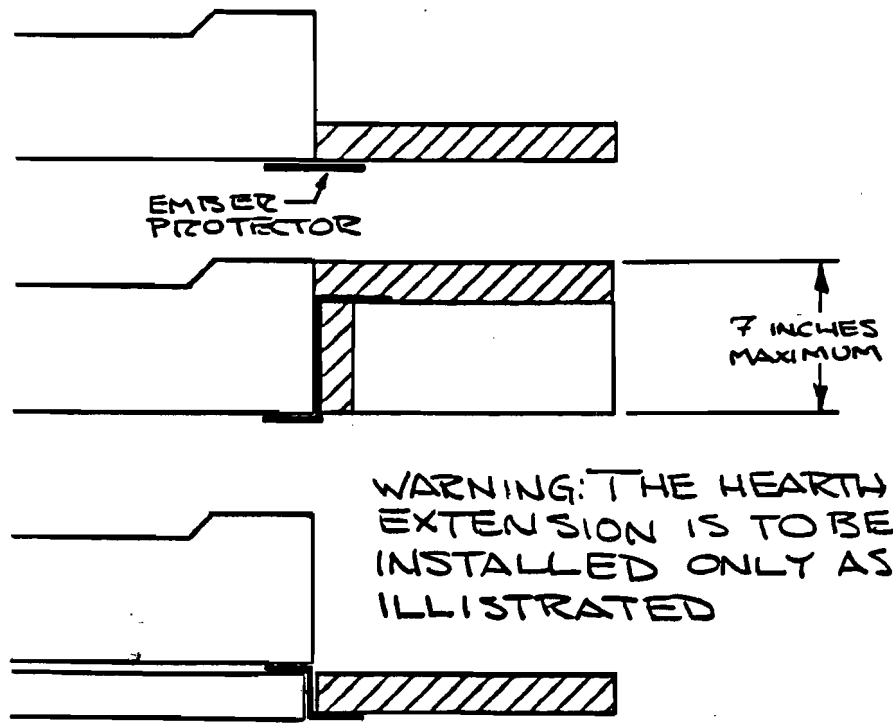

FIG.3 HEARTH EXTENSION
- Step 4: When the fireplace is installed upon a combustible floor, a non-combustible sealing strip must be installed between the fireplace and hearth extension as illustrated in Fig. 3.
If the fireplace is installed on a combustible floor, or if an elevated hearth extension is desired (See Fig. 3), this area must be covered with at least 3/4 of an inch of non-combustible millboard or the equivalent (See Diagram Page 1).